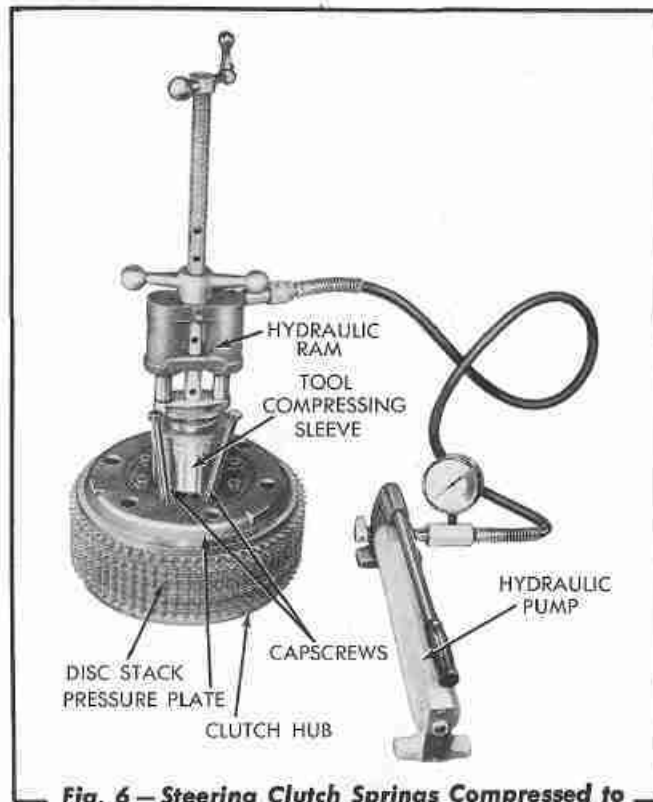

Fig. 6 — Steering Clutch Springs Compressed to Remove Capscrews
3. Remove the lockwire from the eight (8) drilled-head capscrews used in holding the steering clutch assembly together. Compress the steering clutch pressure springs using special tools similar to the ones shown in Figs. 6 and 7 and remove drilled-head capscrews. Release the pressure from hydraulic ram, allowing the assembly to separate until all tension is taken off of the steering clutch pressure springs. The clutch throwout plate, discs, springs, etc. can now be separated.